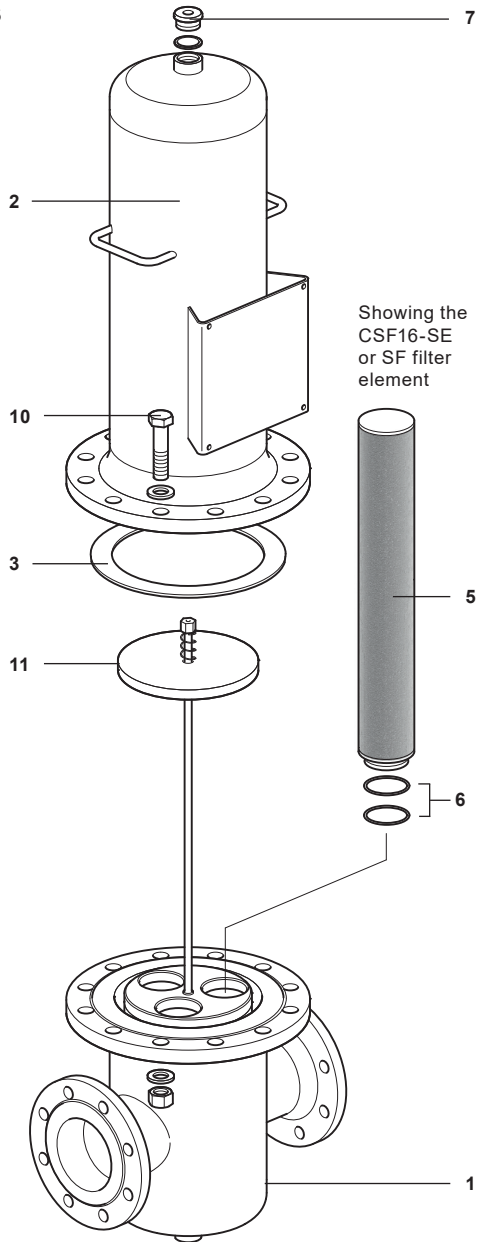

Fig. 2 DN100 and DN150L
See Figure 2 Stainless steel sterile air filters on page 7 for part recognition.
6. **When multiple elements are fitted**, the filter support assembly (**11**) must be assembled and fitted as shown in Figure 2.